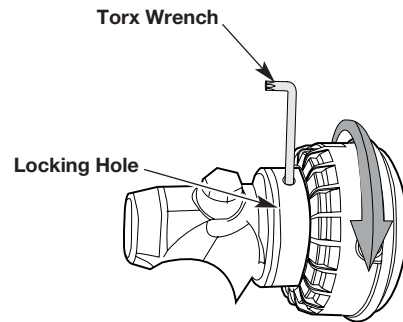

Fig. 18
1. Insert the Torx wrench into the locking hole on the top of the gear box (Fig. 18).